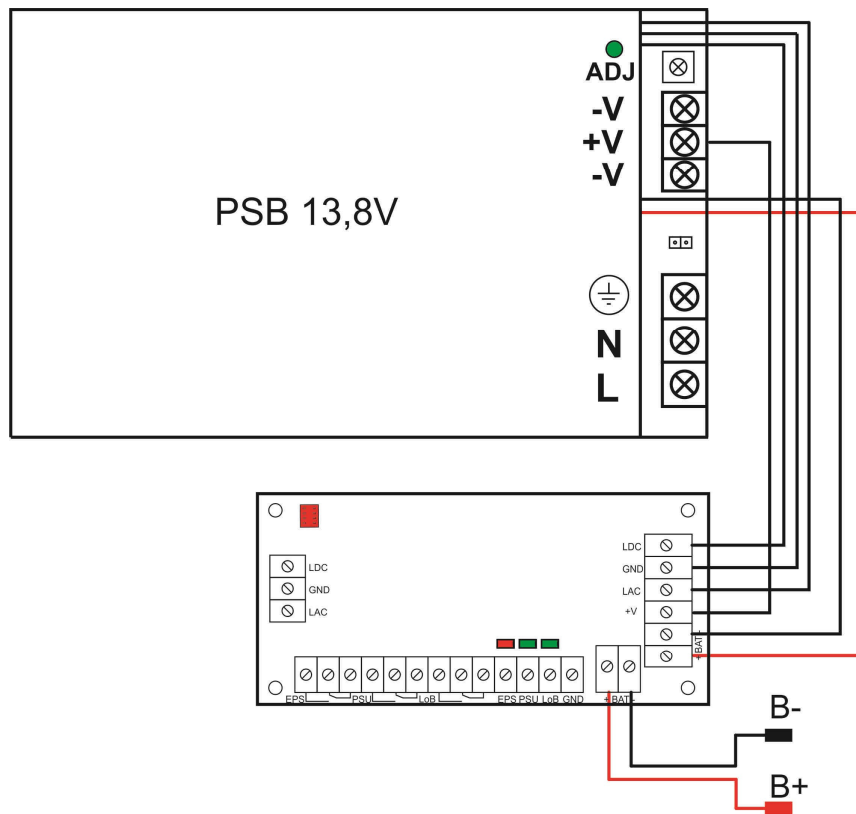

Fig.2. Diagram of connecting the module to the PSB power supply unit.
Technical outputs: - EPS; output indicating AC power failure - PSU; output indicating DC absence/PSU failure - LoB output indicating low battery voltage	- relay type: 1A@ 30VDC/50VAC, time lag: approx. 10s. CAUTION! In Fig.2. the contact set in the potential-free status corresponds to a state with no AC power (AC power failure). - OC type, 50mA max., normal status: L (0V) level, failure: hi-Z level, time lag: 10s. - relay type: 1A@ 30VDC/50VAC CAUTION! In the Fig.2. the set of contacts indicates potential-free status of the relay which corresponds to the DC power absence (PSU failure). - OC type, 50mA max., normal status: L (0V) level, failure: hi-Z level - relay type: 1A@ 30VDC/50VAC CAUTION! In the Fig.2. the set of contacts indicates potential-free status of the relay which corresponds to a low battery level ($U_{BAT} < 11.5V$). - OC type, 50mA max., normal status: ($U_{BAT} > 11.5V$): L (0V), failure: ($U_{BAT} < 11.5V$): hi-Z level
3. Cut the BAT+, BAT- leads in the PSB 13,8V PSU, separate and connect to the module, following the diagram. (fig.2).